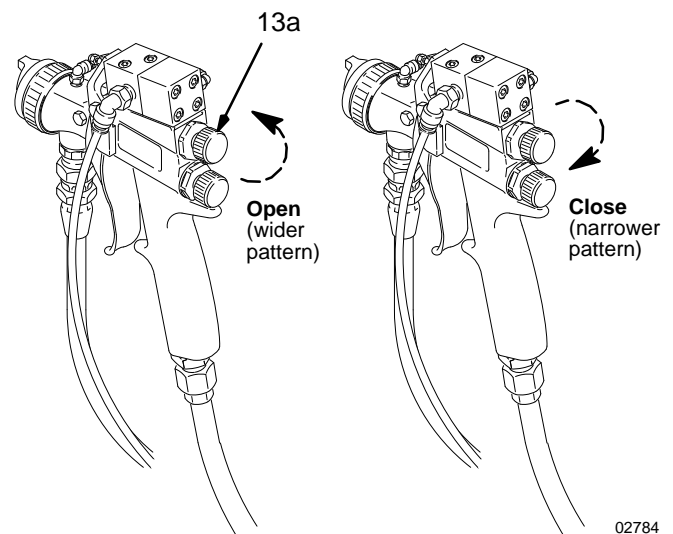

Fig. 17
- E. Open the pattern adjusting valve by turning the knob (13a) fully counterclockwise. See Fig. 17.
- H. The spray pattern may be too wide with the pattern adjustment knob (13a) fully open. Turn the pattern adjustment knob clockwise until you have the desired pattern size. See Fig. 17, page 11.